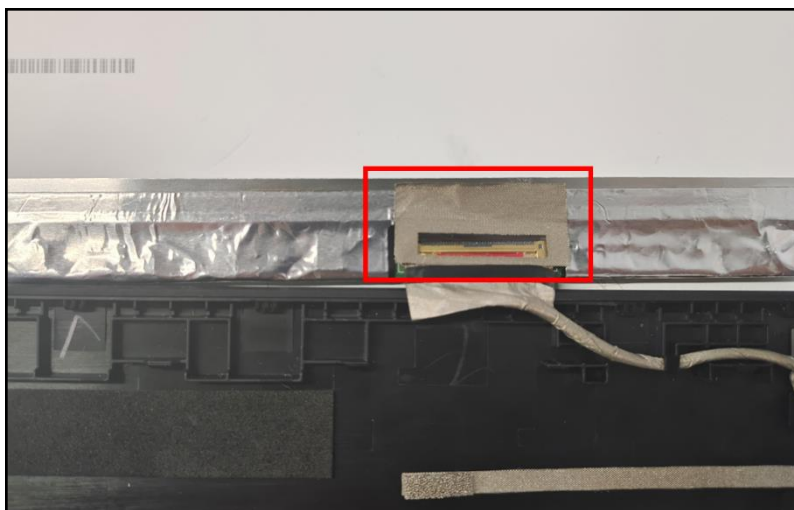

Figure 3-78. Replacing the LCD Panel
3. Adhere the mylar tape (C) to secure the eDP cable to the LCD panel (Figure 3-78).